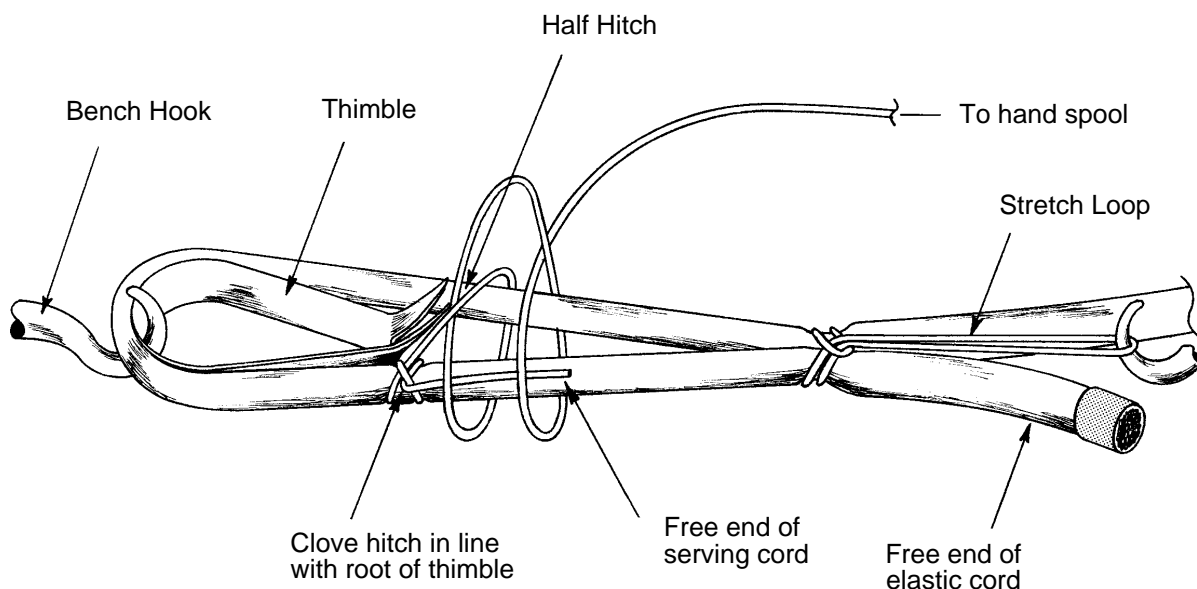

**Figure 3 - Loop Fitted with Thimble**
Step 1. Wrap the elastic cord snugly around the thimble or bushing as shown in Figure 3 and tie the two strands with a stretch loop.